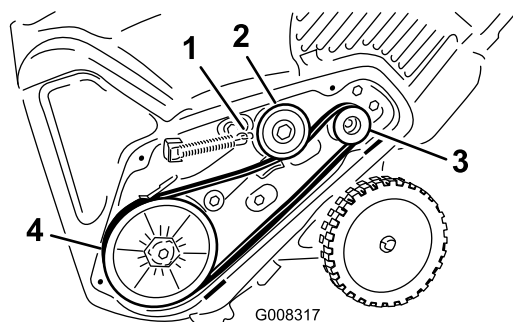

Figure 28
5. Install the new drive belt, routing it as shown in (Figure 28).
8. Install the brake spring onto the idler arm (Figure 28).